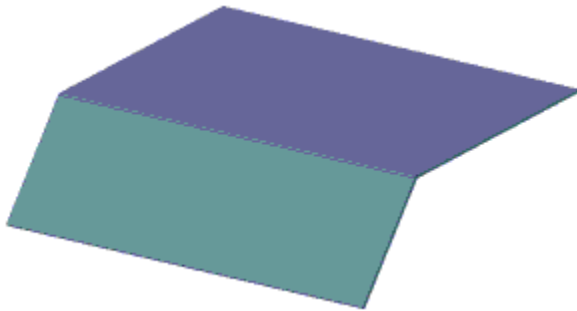

Figure 1: Sheet-metal face and flange.
4. Click the Flange tool on the Sheet Metal Panel Bar and add a 2.5-inch (65mm) flange at 45 degrees to the long edge as shown in Figure 1.